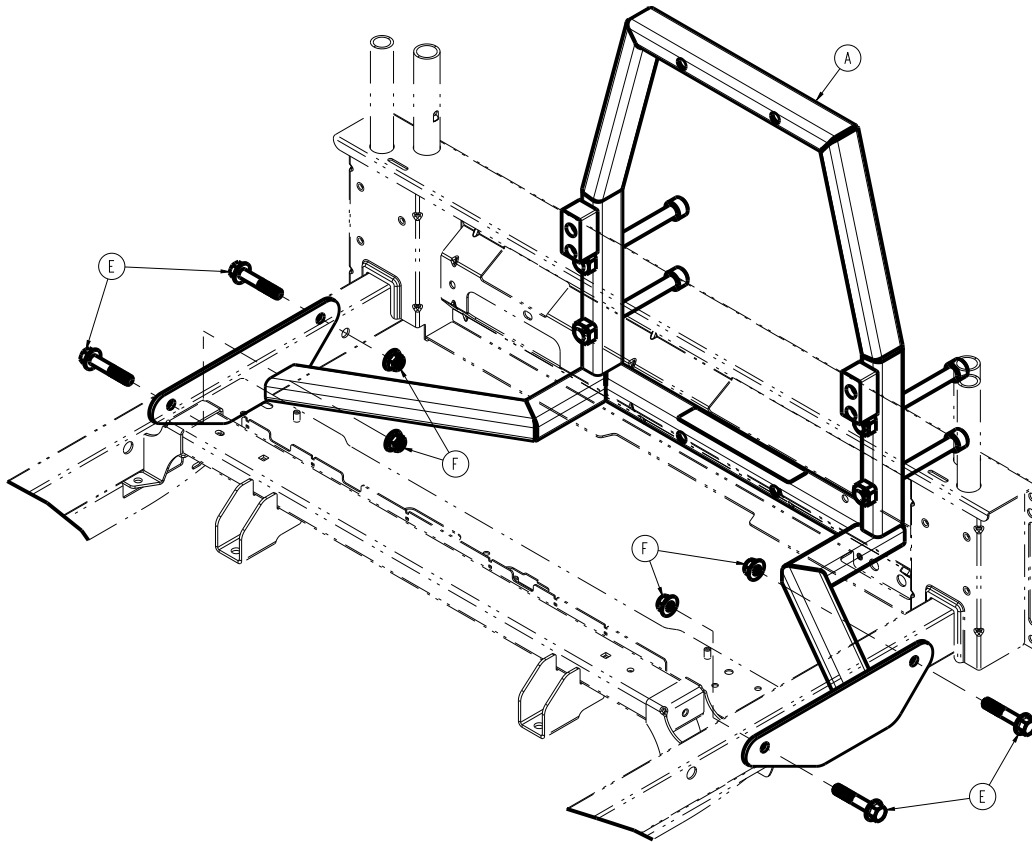

Figure 79 – Attaching the patient helper bracket
5. Using a small slotted screwdriver, remove the four litter plugs toward the head end of the product. See the hex screws (E) for the litter plug locations (Figure 79). Discard the litter plugs.
6. Hold the patient helper weldment (A), with help from another person, upright at the head end of the product.
7. Insert the four hex screws (E) through the patient helper weldment (A) and litter frame and thread on the four hex nuts (F).